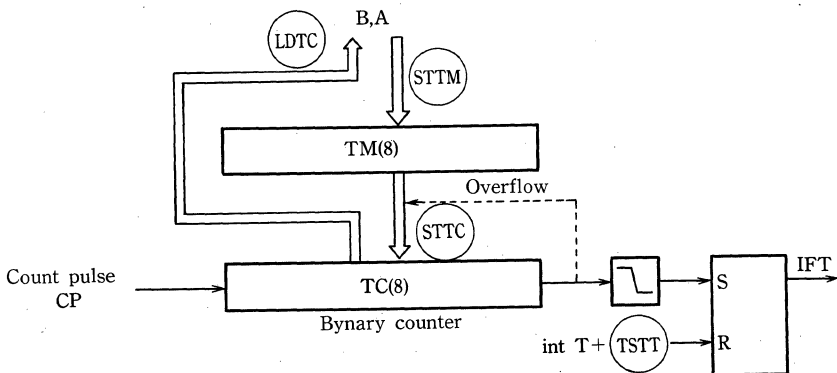

Fig. 6 Timer/event counter
The count register is an 8-bit incremental binary counter. It is incremented by one at the falling edge of its count pulse (CP) input. If the count register overflows, the timer interrupt request flag IFT is set, and the contents of the modulo register (TM) are loaded into the count register (See Fig. 6).